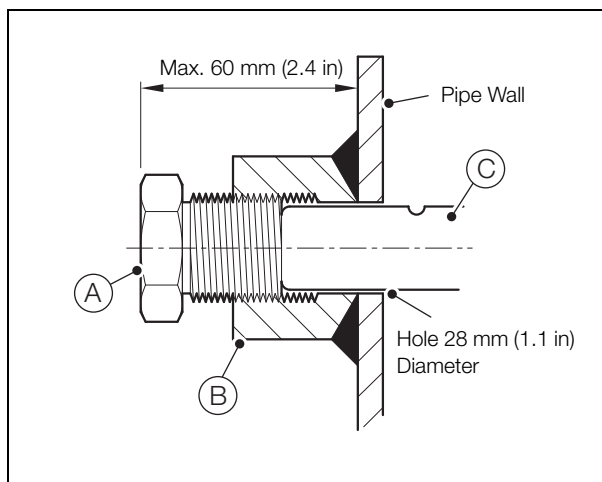

Fig. 2.13 Threaded Process Connection Support Plug
11. Referring to Fig. 2.13, screw support plug (A) into threaded fitting (B) and tighten, ensuring that:
- a. support plug (A) contacts the PitoMaster (C)
- b. the distance between the head of support plug (A) and the pipe wall does not exceed 60 mm (2.4 in).